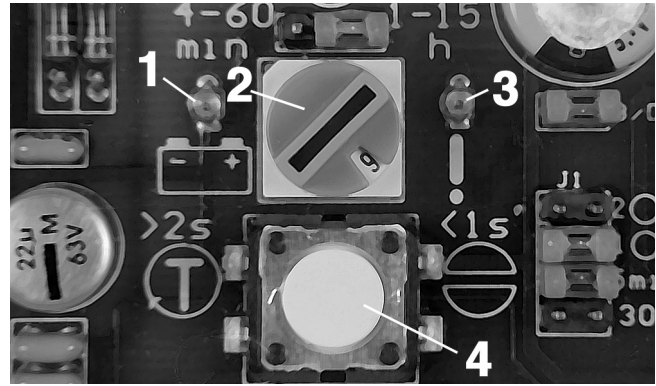

Fig. 14 - LED of the printed circuit board
Note: It is also possible to acknowledge any fault or to trigger an additional lubrication cycle via pushbutton 4 of the printed circuit board (Fig. 14).
Note: It is also possible to acknowledge/reset a fault or trigger an additional lubrication cycle by means of the pushbutton on the printed circuit board (Fig. 14). For this, press it < 1 second and > 2 seconds. **Condition: The machine contact or driving switch must be switched on.**
- To check whether power is applied to the printed circuit board, observe whether the left-hand LED 1, Fig. 14, is lit.